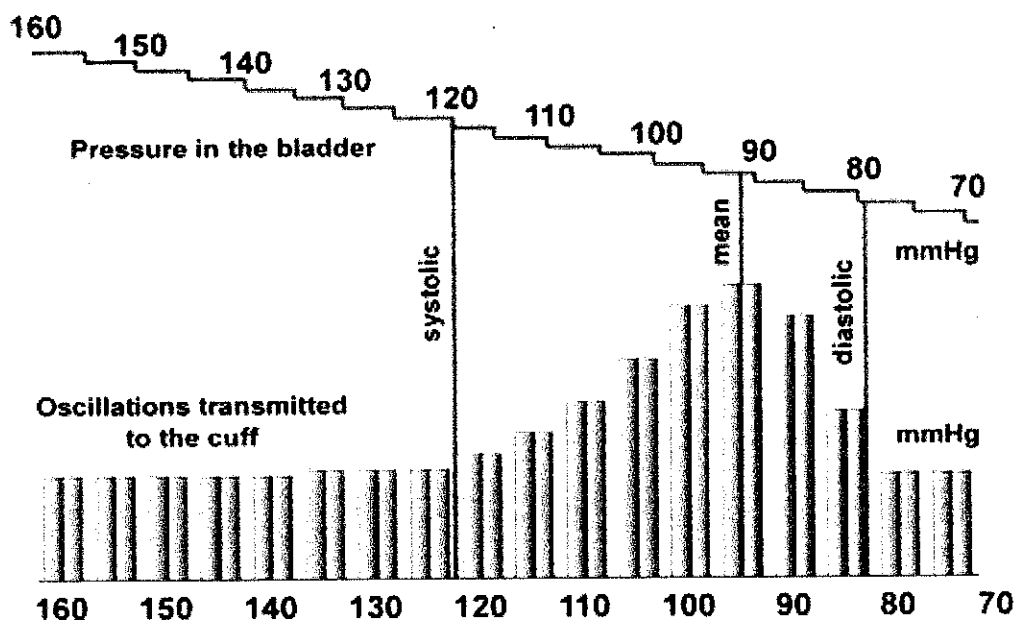

Figure 4: Oscillation of signal obtained from the inflatable cuff [2].
- Figure 4:** Oscillation of signal obtained from the inflatable cuff.